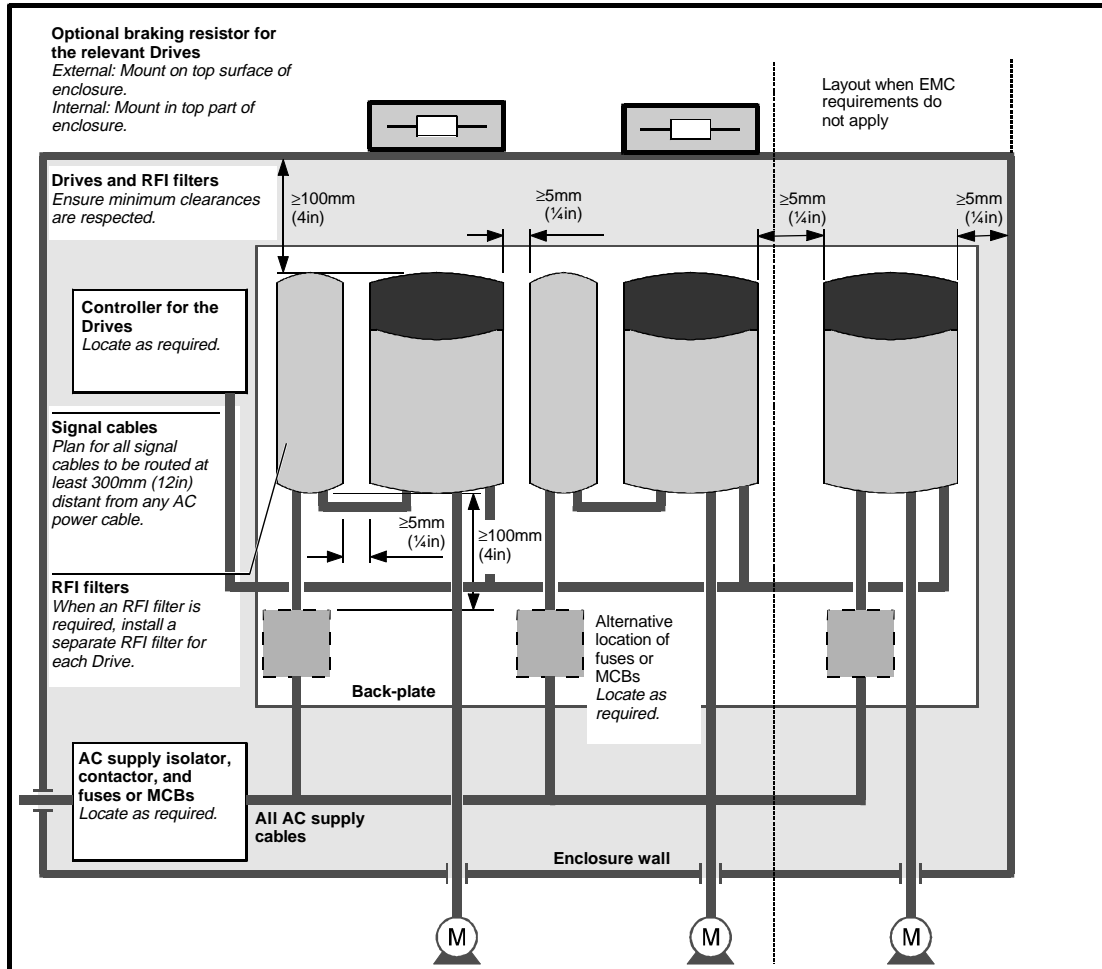

Fig. 4.4 Planning the layout of the enclosure
6. Plan the installation layout using Fig. 4.4 below as a guide. Further details are given in this Section, but also refer to Section 5 on Electrical Installation.